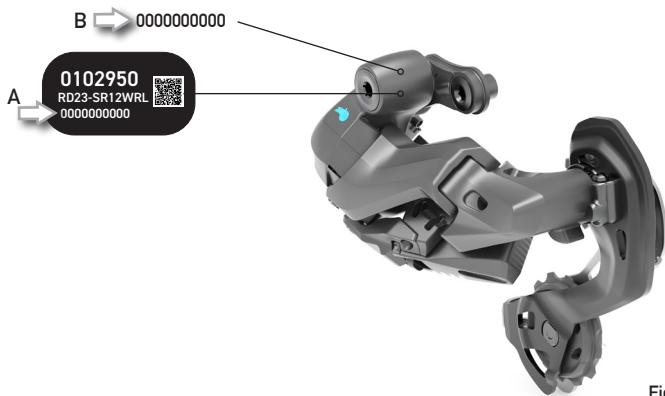

Fig.12
- Enter the serial number of the rear derailleur which can be found on the removable label (Fig. 11), or on the black label (A - Fig.12) on the front part of the rear derailleur hanger, or else can be read directly from the rear derailleur (B - Fig.12) for products manufactured from August 2023 onwards.